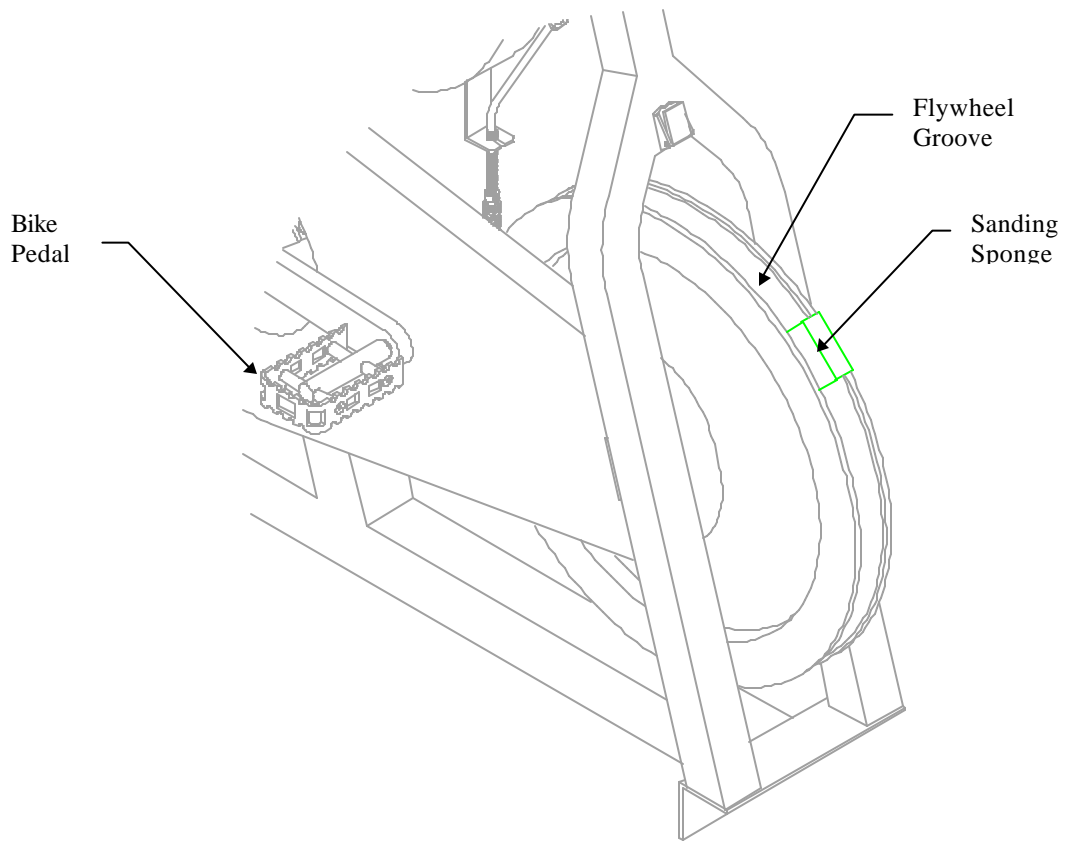

Figure 5
1. Remove the friction belt from the flywheel (Figure 5).
Use extreme caution when sanding flywheel. When sanding flywheel position sanding sponge on the flywheel as shown in Figure 5, keeping hands, fingers, clothes, etc. away from bike frame to avoid them from getting snagged or pinched. Failure to follow instructions could result in serious injury.
3. While rotating the flywheel (possibly by having someone *slowly* pedal the bike) hold the sanding sponge in the groove of the flywheel (as shown in Figure 5). Clean the groove with a dry cloth removing all debris created from sanding sponge. Replace friction belt.